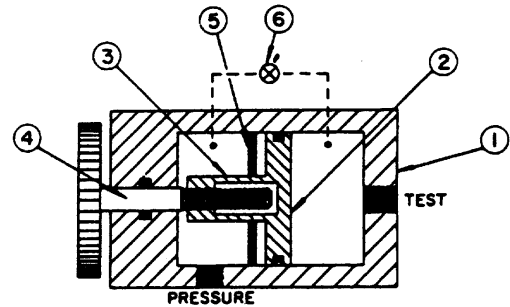

FIGURE NO. 1
1. All 3D Instruments Pressure-Volume Controls operate on an identical functional principle. Their construction, therefore, varies only slightly from model to model. These instruments use a practical application of Boyle's Law wherein it is demonstrated that a gas pressure P trapped in a volume V will change in inverse proportion to any change in the volume of V . For instance: if V is doubled, P will be halved; or, if V is halved, P will be doubled. 3D Instruments P-V Controls apply this principle by providing (1) a means of trapping a test volume and (2) a method of varying the volume of this test system.
2. Figure No. 1 illustrates the major elements of a 3D Instruments P-V Control.